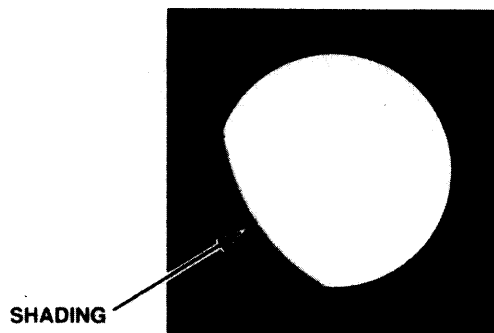

Figure 3-7. Shading.
a. Shading. When properly adjusted, the goggle should present a full circle. If shading is present, you will not see a fully circular image (see Figure 3-7). Shading always begins on the edge and move inward, **Do not** use if shading is present. Replace the image intensifier.